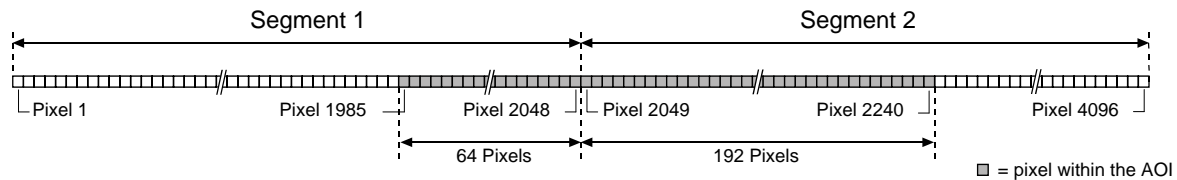

Fig. 32: AOI Falling Across Segments
- Suppose that for a 4k camera, the AOI starting pixel is set for 1985 and the length is set for 256. With these settings, the AOI falls across the two sensor segments as shown in Figure 32.